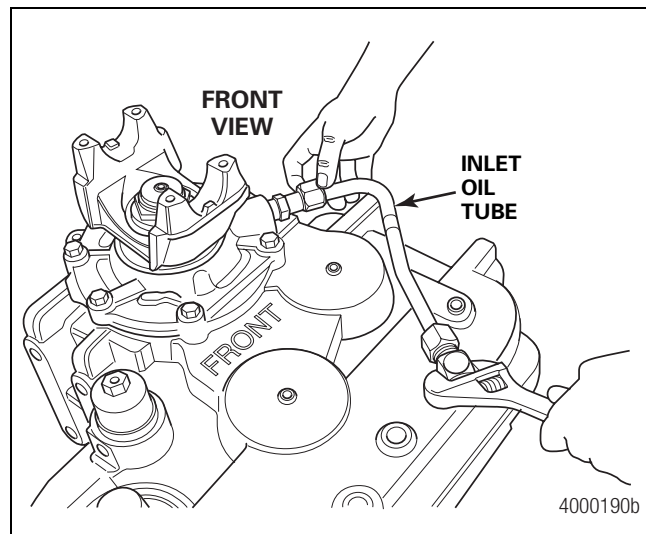

Figure 4.1
1. Remove the inlet oil tube from the transfer case by loosening the fittings at the lower front case and input-bearing cage. Figure 4.1.